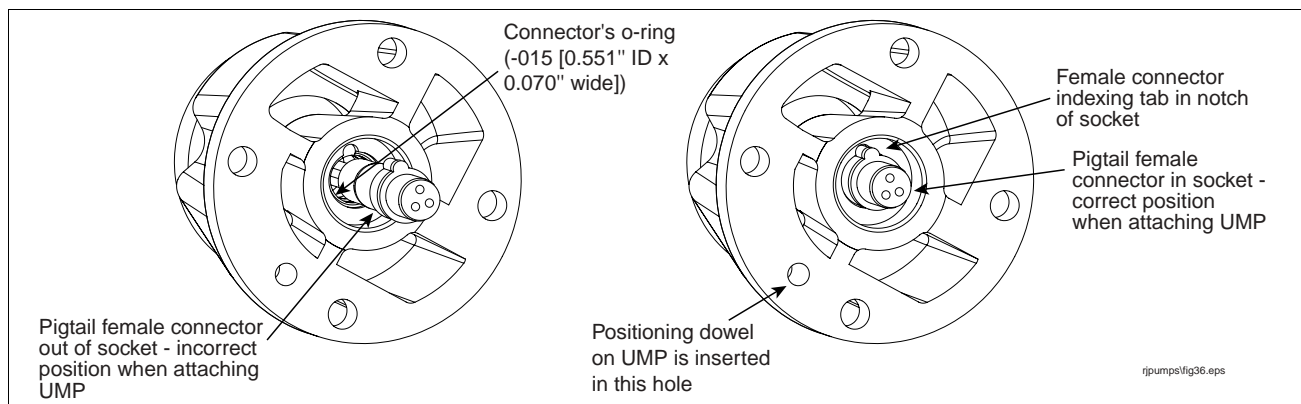

Figure 31. Verifying pigtail's female connector is seated properly
6. Pull the pigtail connector in the discharge head out far enough to see the o-ring in the sidewall of its socket (see Figure 31). Remove the connector's o-ring from the connector's socket and discard it. Get a 0.551" ID x 0.070" wide o-ring from the kit and lubricate it with petroleum jelly. Slide the new o-ring over the pigtail connector and push it in the groove in the wall of the connector's socket. Lubricate the pigtail connector body with petroleum jelly and push it back into its socket, making sure its index tab is in the socket's notch.
7. Align the UMP positioning dowel so it inserts in the proper hole in the discharge head (ref. Figure 31) and push the UMP into position using hand force only. The UMP should be snug against the discharge head prior to installing the UMP retaining bolts.
10. Push the pigtail wires into the connector's socket until they exit into the packer's wiring compartment. At the discharge (connector) end of the pigtail, rub some petroleum jelly over the connector's outside surface and push it into its socket in the discharge head. Take care to align the connector index tab with the notch in the socket as shown in the drawing on the right in Figure 31 on page 32.
11. Align the UMP positioning dowel so it inserts in the proper hole in the discharge head (again ref. Figure 31 on page 32) and push the UMP into position using hand force only. The UMP should be snug against the discharge head prior to installing the UMP retaining bolts.